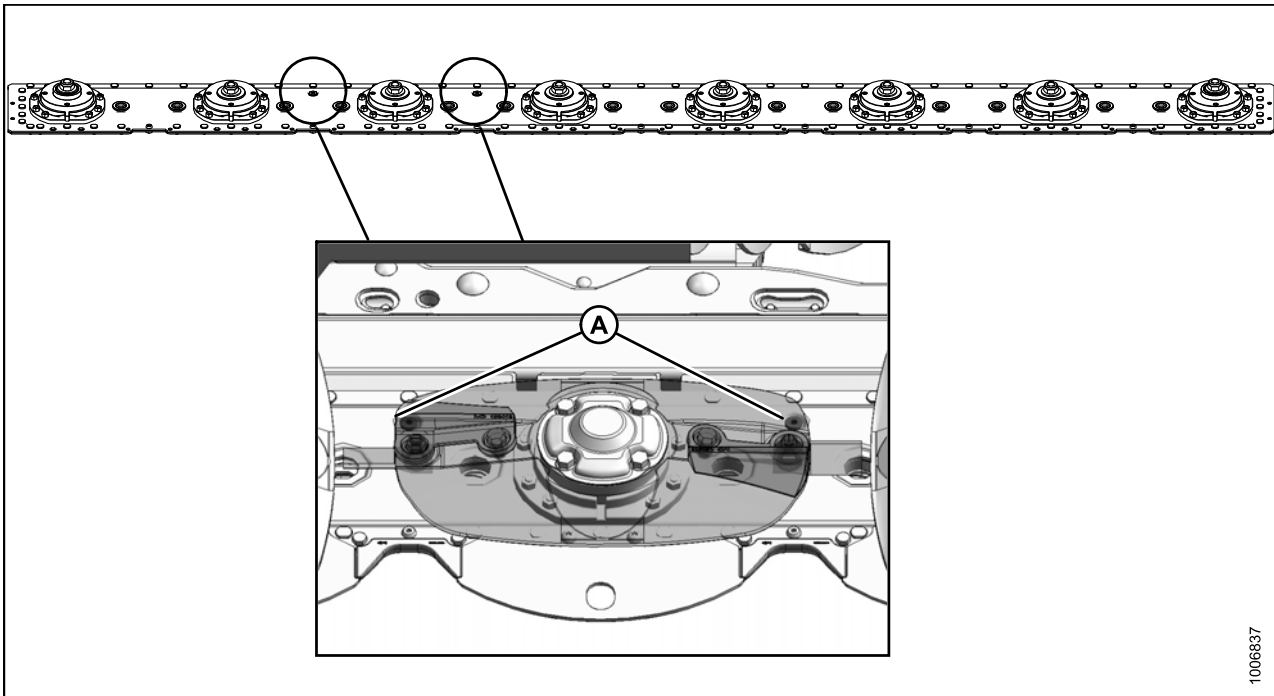

Figure 5.12: Cutterbar Filler Plug Locations
11. Locate one of the two filler plugs along the top of the cutterbar. Refer to Figure 5.12: Cutterbar Filler Plug Locations, page 114.